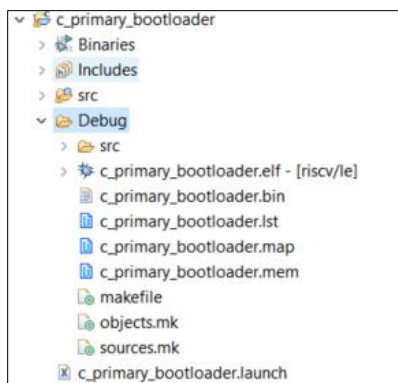

Figure 7.31. Bootloader Binary Created
9. This creates a debug folder as shown in Figure 7.31. The binary created is named **c_primary_bootloader.mem**. This goes as a part of System Memory in Propel Builder SoC design. This can be done through ECO editor or directly from the Propel Builder System Memory GUI.